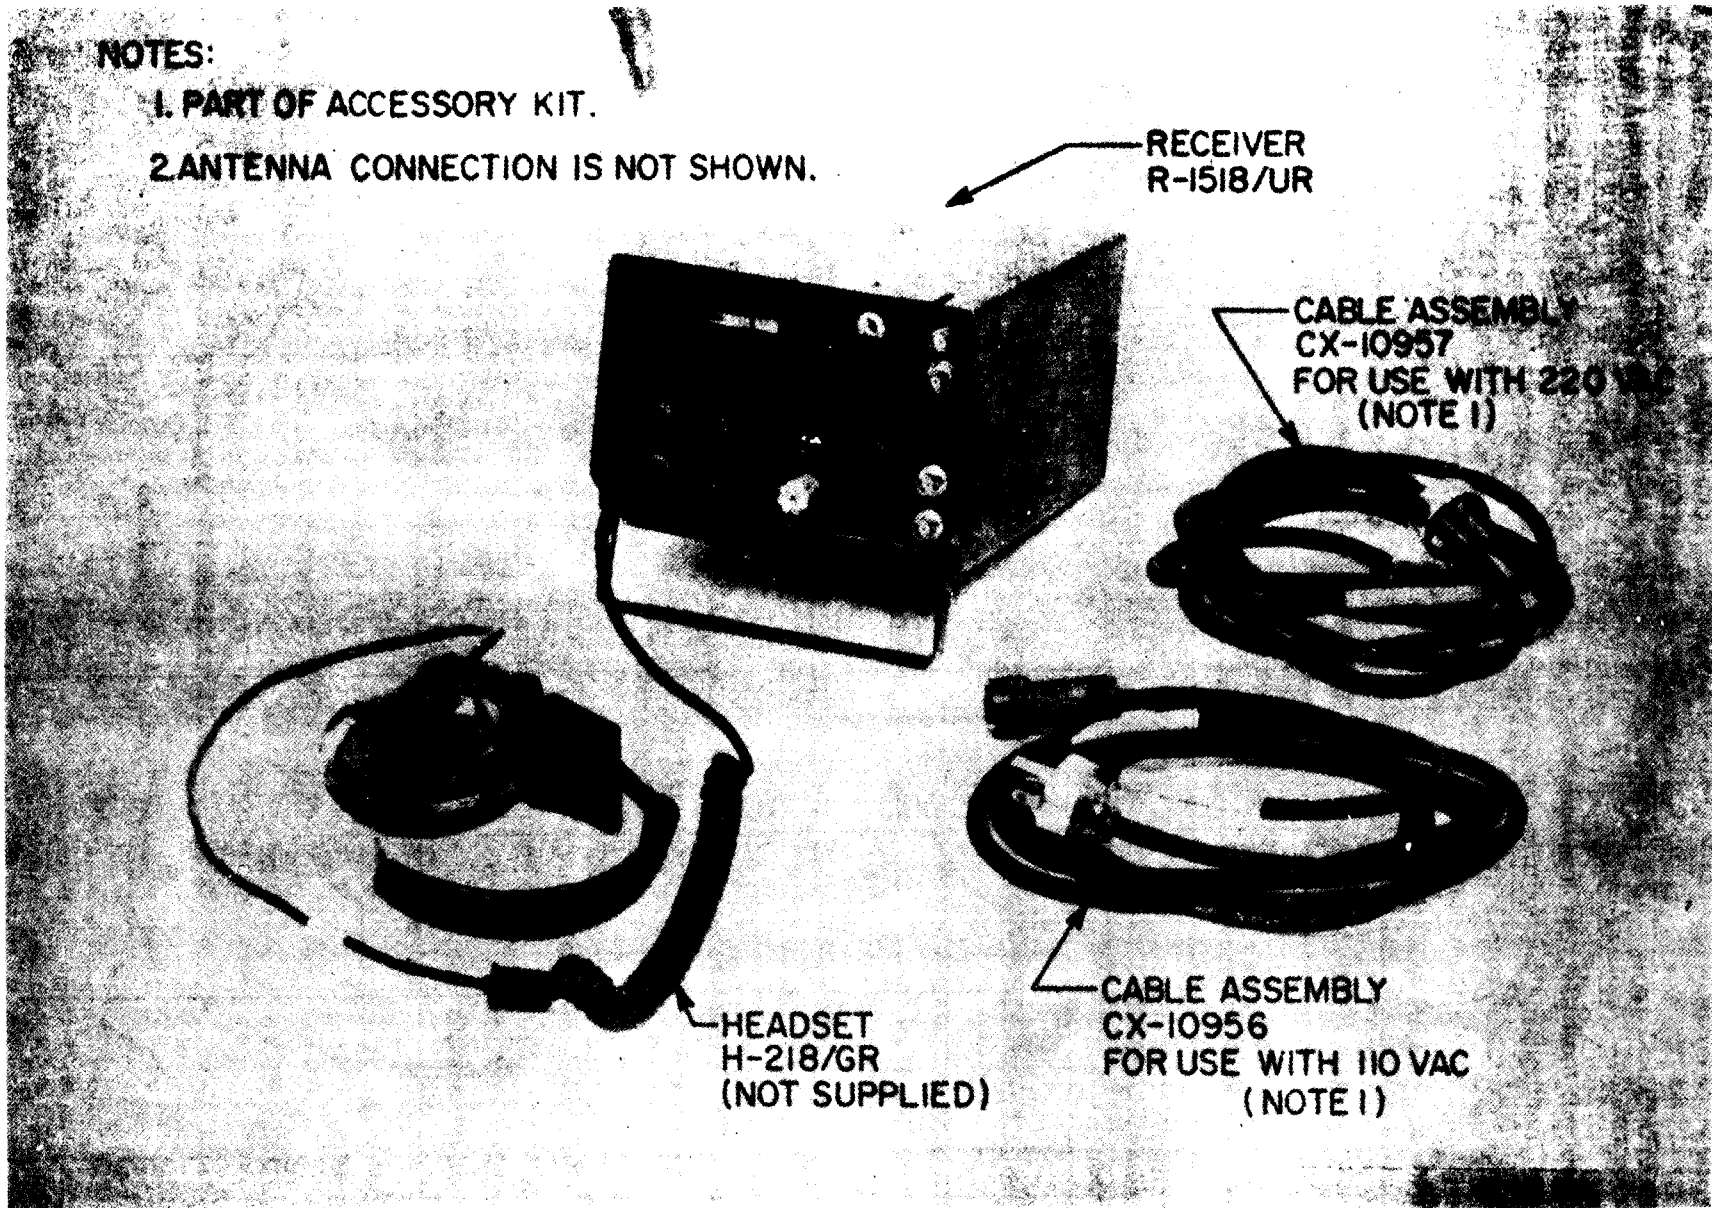
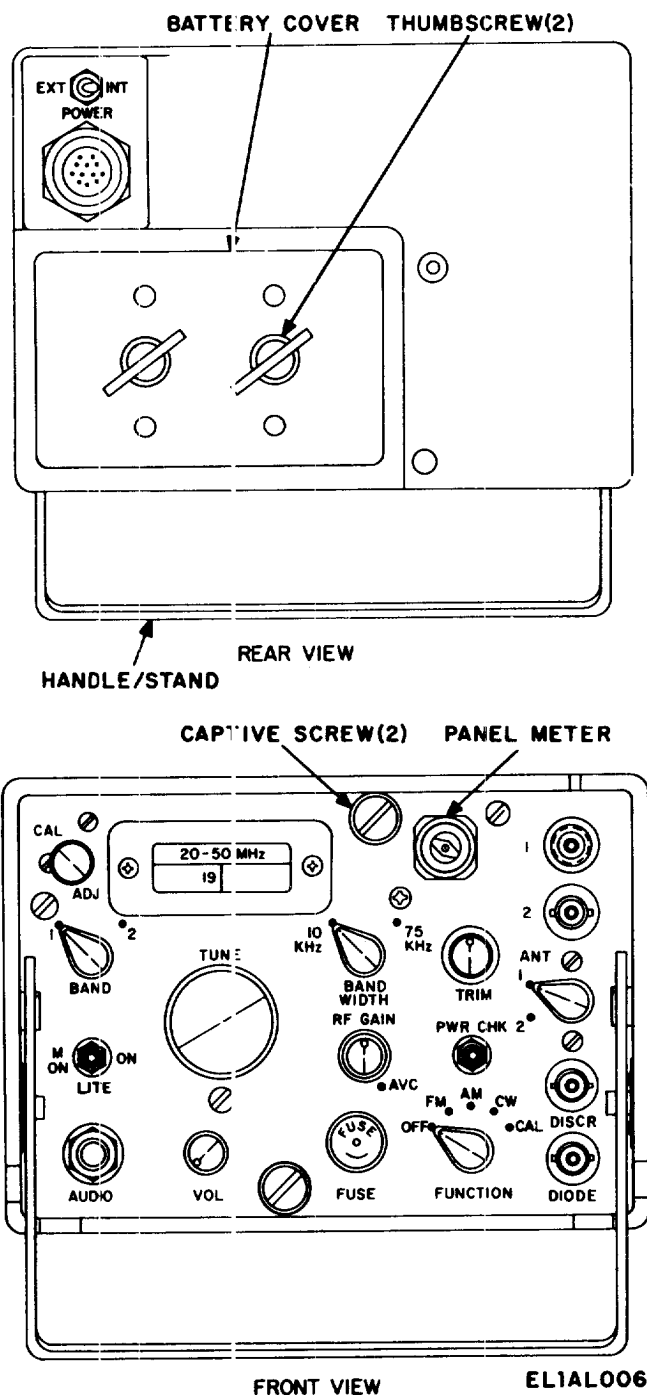

Figure 2-3. Typical fixed installation.
Figure 3-1. Controls, indicators, and connectors.
(1) Connect Antenna AS-2887/UR to receiver ANT input 1 (fig. 3-1).
(2) Set the ANT switch to 1.
(3) Connect a headset to the AUDIO connector.
(4) Set the rear panel POWER switch to INT.
(5) Refer to paragraph 3-5 and operate receiver in AM mode.
(6) Activate LITE to M ON and check that panel light operates.
c. Fixed Installation (fig. 2-3).
- (1) Extend handle/stand to stand position.
- (2) Connect the desired antenna to the receiver.
- (3) Set the ANT switch (fig. 3-1) to the desired input.
- (4) Set the rear panel POWER switch to EXT.
- (5) Connect the 110 vac or 220-vac power cable (parts of MX-1517/UR) to the POWER connector end to a suitable outlet.
- (6) Connect a headset to the AUDIO connector.
- (7) Refer to paragraph 3-5 and operate receiver in am. mode.
- (8) Position LITE switch to ON and check that panel light operates.
The receiver front panel (fig. 3-1) controls, indicators, and connectors, and the rear panel and their functions, are listed in table 3-1.
c. Set the controls on the front of the receiver (fig. 3-1) as follows: